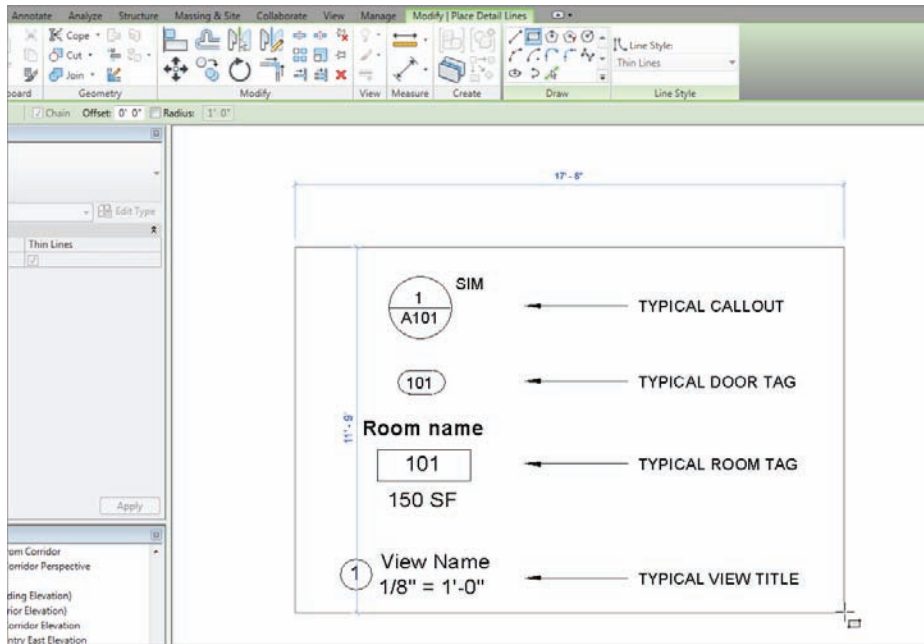

FIGURE 11.52 Adding the linework around the symbols and text
2. In the Properties dialog, be sure Thin Lines is selected, as shown in Figure 11.52.
3. On the Draw panel, click Rectangle (see Figure 11.52).
4. Draw a rectangle around the symbols and the text (see Figure 11.52).